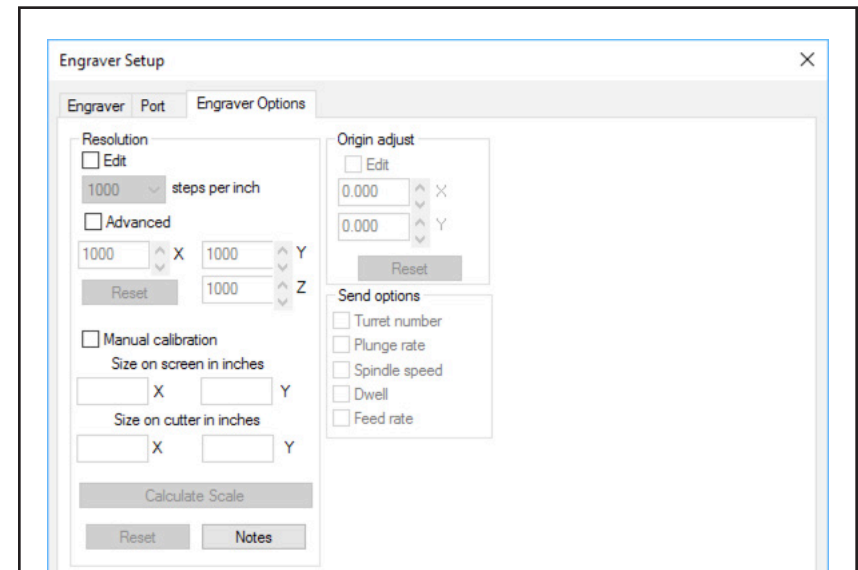

Fig. 18 - The **Engraver Options** provide a workaround for an engraver needs maintenance, but you have a job that needs to be completed right away.
26. Click the **Engraver Options** tab (Fig. 18).